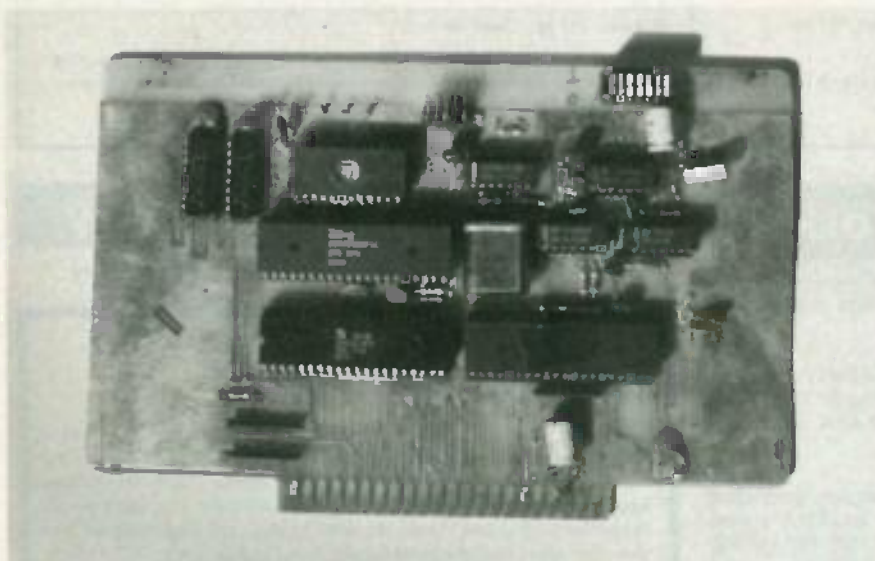

FIG. 8—FULLY ASSEMBLED CPU BOARD.
• **Separate fixed-positive and adjustable-positive supplies from a car battery.** Figure 8 assumes that you use a standard +5-, +6-, or +8-volt regulator for IC1, and an adjustable version for IC2; the output of the second regulator is adjusted by R1 and R2. The accompanying table in Fig. 8-d gives V_2 to within 50 millivolts for different values of R1 and R2, but you can also use the previous formula.
FIG. 8—REGULATING THE VOLTAGE FROM a car battery; the assumption is that IC1 is a standard +5-, +6-, or +8-volt regulator, and that IC2 is adjustable, but set to a non-standard value by R1 and R2. The accompanying table in (d) gives V_2 to within 50 millivolts for different values of R1 and R2, but you can use the formula given in the text.